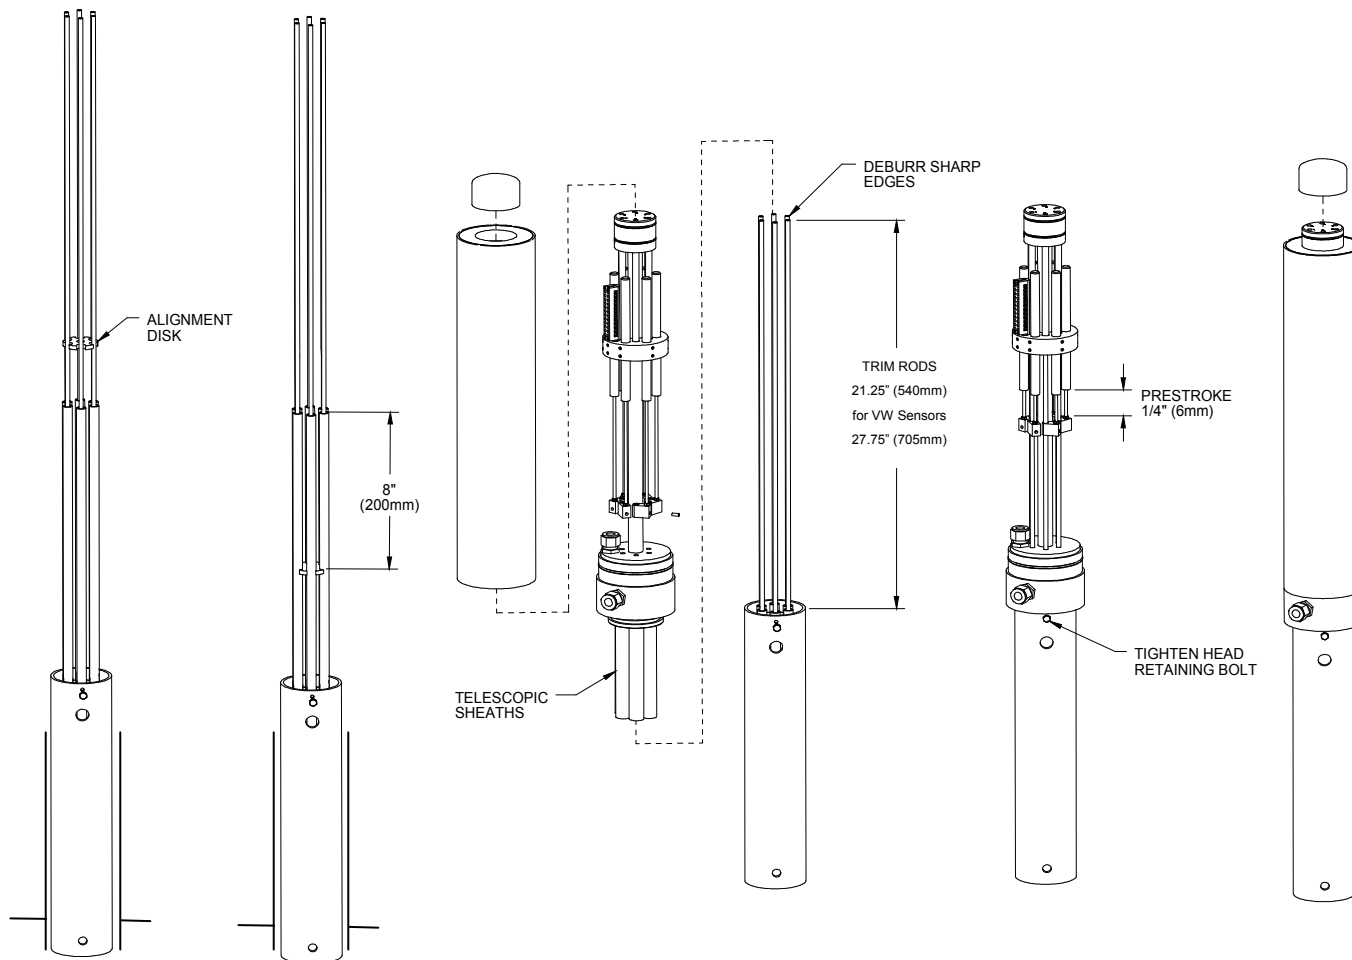

Figure 5: Head Installation
3. If possible, trim each anchors last piece of PVC Sheath to length, so that when it is installed in its final position, it will end up flush with the top of the Grout Collar (see Figure 5). This will eliminate trimming the sheaths to length with a Cable Saw once all of the anchors have been installed.
40. If applicable, install the Sheath Alignment Disk far enough from the top of the sheaths so it will end up ~8" (200mm) below the top of the grout collar when the Anchors reach their target depths (see Figure 5). Secure in place with a few wraps of tape.
47. Remove the PVC Top Cap and PVC Housing off of the Extensometer Head as shown in Figure 5.